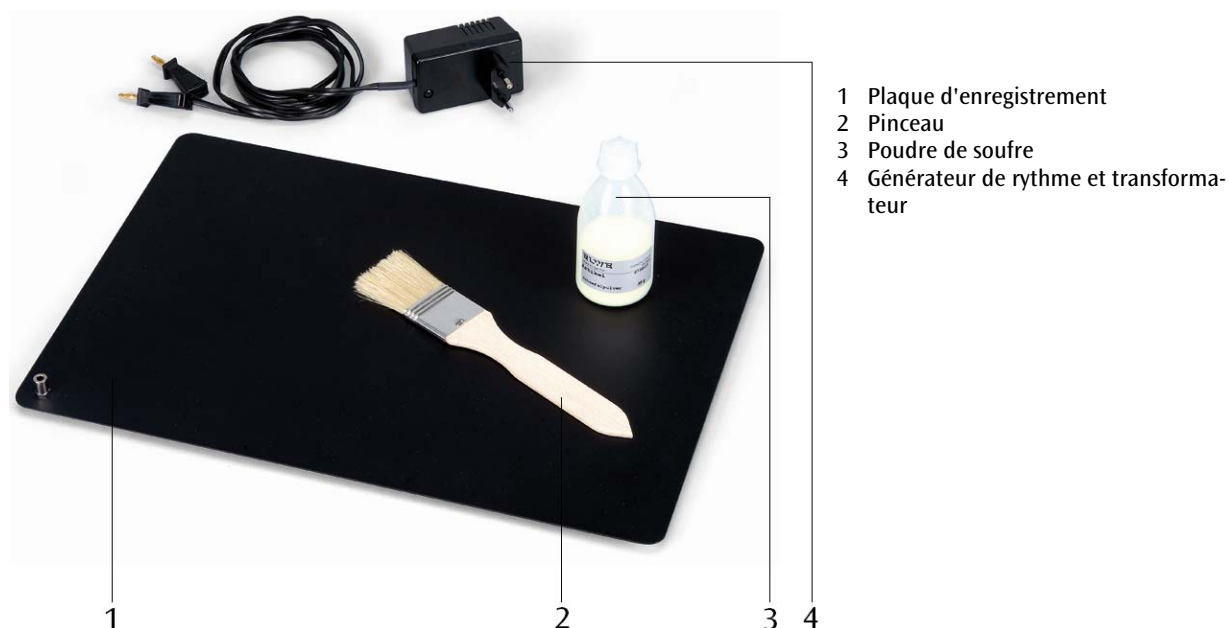

Fig. 2 Experiment set-up: Confirmation of Kepler's second law
- Set up the experiment as shown in Figure 2.